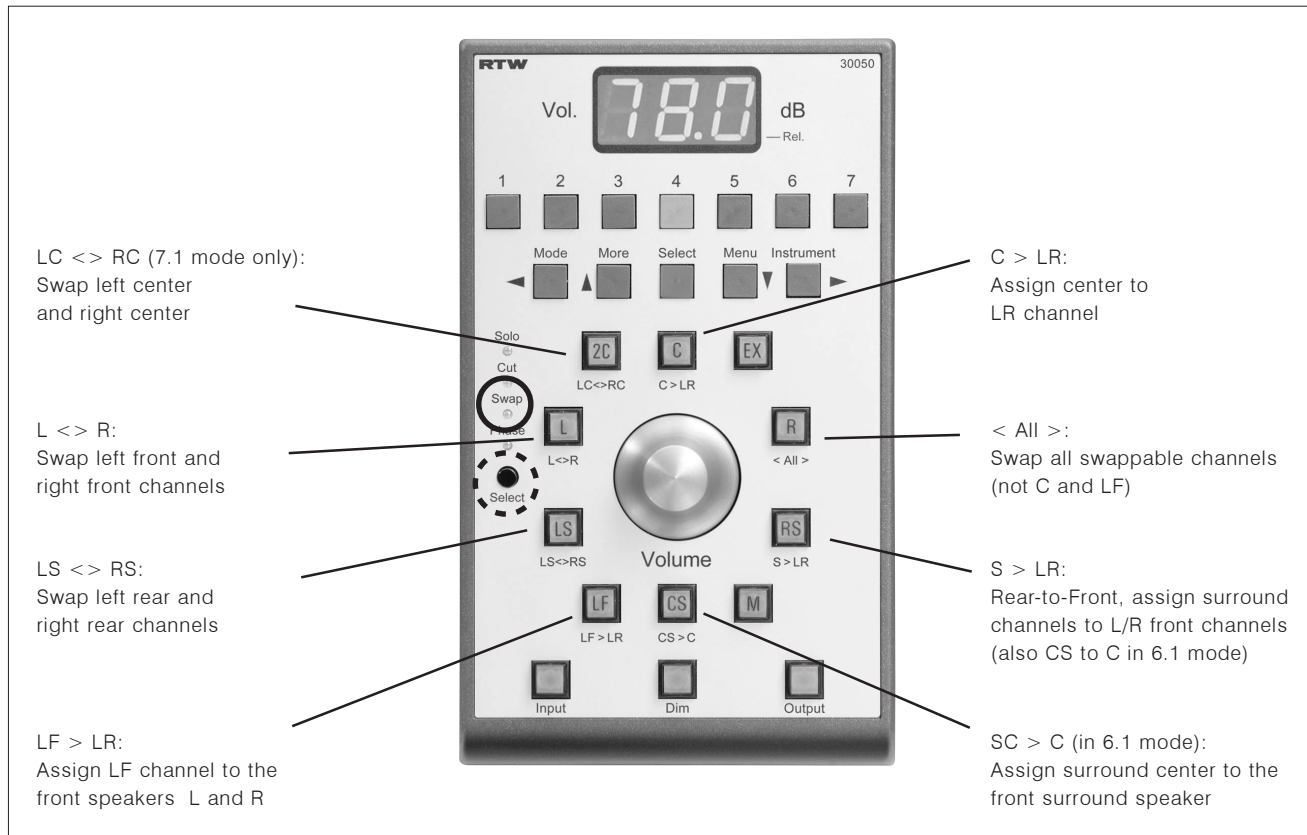

Fig. 4-4: Remote Control 30050 key assignments in Swap mode (31900 series) - the same functions are available on the 31960 series control panel
- Swap: Swaps channels as indicated by the panel labels below the keys (see Fig. 4-4)